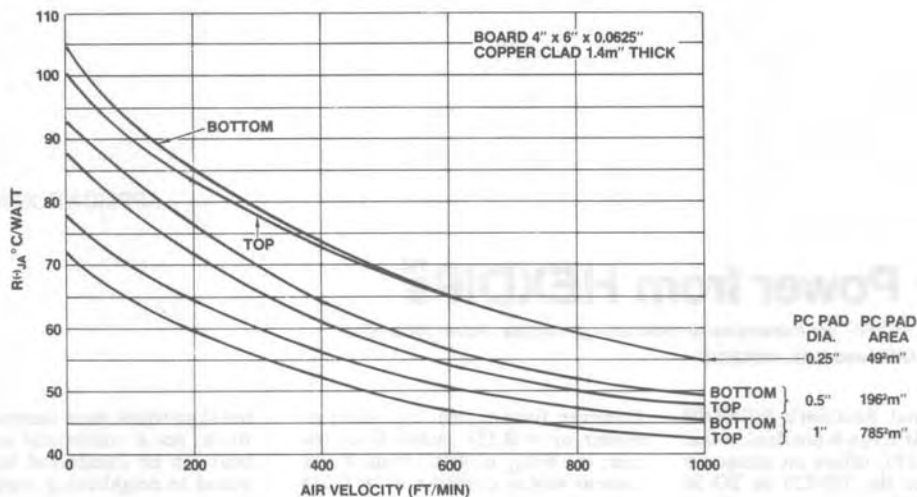

Figure 2.  $R\theta_{JA}$  vs. Air Velocity Top and Bottom pc Mount.
International Rectifier has characterized various pad sizes versus air velocity for the  $R_{\theta_{JA}}$  of the HEXDIP. Figure 2 shows the results for top and bottom solder.
The graph in Figure 2 is only a starting guideline for  $R_{\theta_{JA}}$  versus pad size. The pad sizes seem overly large. A tiny HEXDIP mounted in the middle of a gigantic 1" diameter copper pad seems ridiculous (and is). However, in a practical application, there is usually a fair amount of unused pc board space. This extra space may be taken up by ground plane, voltage buss, or just left empty. With a little forethought this extra board space can sometimes be utilized for heatsinking the HEXDIP. The shape of the drain mounting pad is not overly critical. The idea is to spread the pad around wherever there is room. Once all the possible territory has been used additional advantage can be gained by placing other traces of substantial size in close proximity to the drain pad. Typical board ma-
The drain pad of the circuit board in Figure 4(b) was approximately 0.4 square inches or the equivalent of a 0.714" diameter pad. Referred to in Figure 2, the actual thermal performance of this circuit is better than anticipated by the drain pc pad size. The explanation is a simple one. All of the copper on the board and even the board itself contribute to lower  $R\theta_{JA}$ .
Thermal design with a power MOSFET in a package such as a TO-3 or TO-220 is very easy.  $R\theta_{JC}$ ,  $R\theta_{CS}$  and  $R\theta_{SA}$  can be summed up and maximum power dissipation calculated accordingly. Thermal design with the HEXDIP is not so easy, however. The graph in Figure 2 gives some good starting guidelines, but other factors such as pc board size, adjacent copper pc trace, and other heat sources on the board make breadboarding under actual (or nearly so) operating conditions a necessity.
1 Watt, a substantial portion of those 20 Watts will be conducted into the board. Pad size is still important in this case, but forced air cooling will almost certainly be necessary. A good course of action here is to locate the hottest device on the board and design around it. In Figure 2, the performance of the smallest pad size versus air velocity should give some good starting guidelines.
- (1) Make the pc drain pad as large as is practically possible, regardless of shape (Figure 2, Figure 4(b)).
- (4) Apply the above three steps using top and bottom of the board where applicable and by using the *minimum* possible spacing between traces.
- (5) Use the maximum practical air velocity (especially with multiple HEXDIPs on a board) (Figure 2).